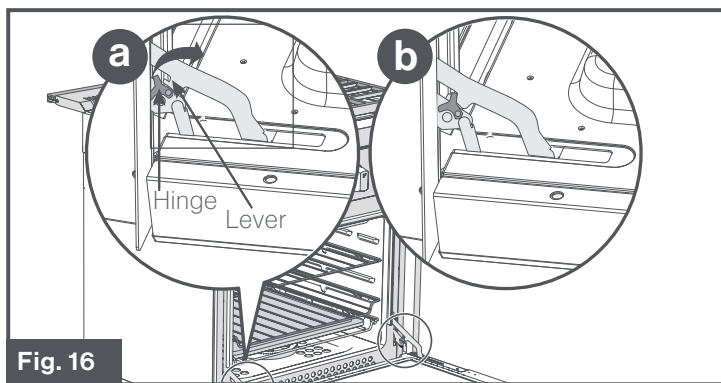

Fig. 16
3. Rotate the Hinge (one on each side) toward you to buckle the lever. (Fig. 16)